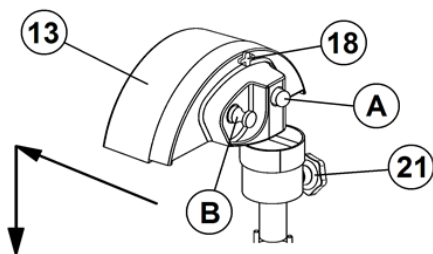

FIG 12. ADJUSTMENT SHARPENER
1.- Slide rods: you must lubricate the slicer with light oil at least every 100 hours or 3 days of service. The points to lubricate are upper and bottom sides of round (16) and square sliding rods.
2.- Knife: after certain period of use or if you notice the quality of the sliced meat is not as fine as the first time, you will need to re-sharpen the knife (2):
B. Loosen the sharpener lock knob (21) under the sharpening assembly, until it springs up (See Fig. 12).
C. Push the assembly towards the cutting blade edge, hold it in that position and press down until the stones are on each side of the knife (Aprox. ¼" under the edge) then tighten the sharpener lock knob (21) again.
D. Turn on the machine and, push the rod "A", let the stone (19) grind the under side of the knife for a few seconds. This will sharpen the edge and create a slight burr on the top side of the edge. When you release the rod "A" it will return automatically.
F. Turn off the machine and wait until the Cutting Blade stops. Then loosen the sharpener lock knob (21), pull up the sharpener and reinstall in its stowed position. Tighten the sharpener lock knob again.